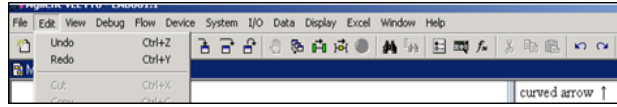

Figure 1-9 Two Other Methods of Applying Redo
- 2 Reinststate the connection by holding down Ctrl and Y at the same time. The connection will be reinstated. Note also the right-hand curved arrow. It can also be used to "Redo Line Add" which is no longer greyed out. See Figure 1-9.